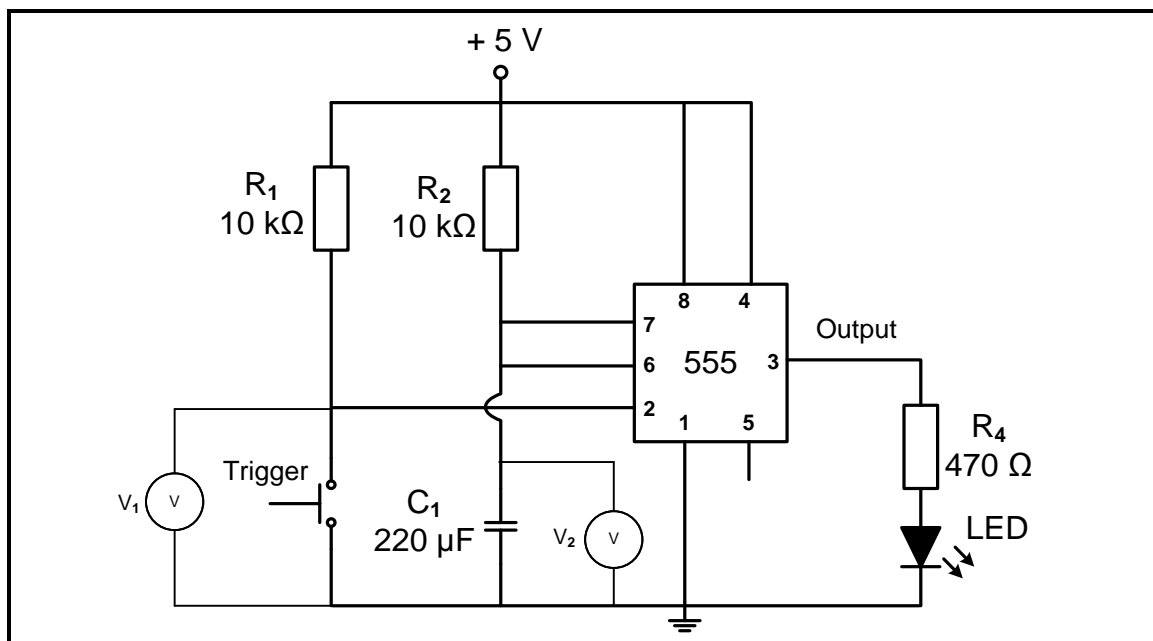

FIGURE 4.3.3: 555 MONOSTABLE MULTIVIBRATOR
- To build the monostable multivibrator in FIGURE 4.3.3 using a 555 IC.
Build the circuit diagram in FIGURE 4.3.3 on your experiment board.